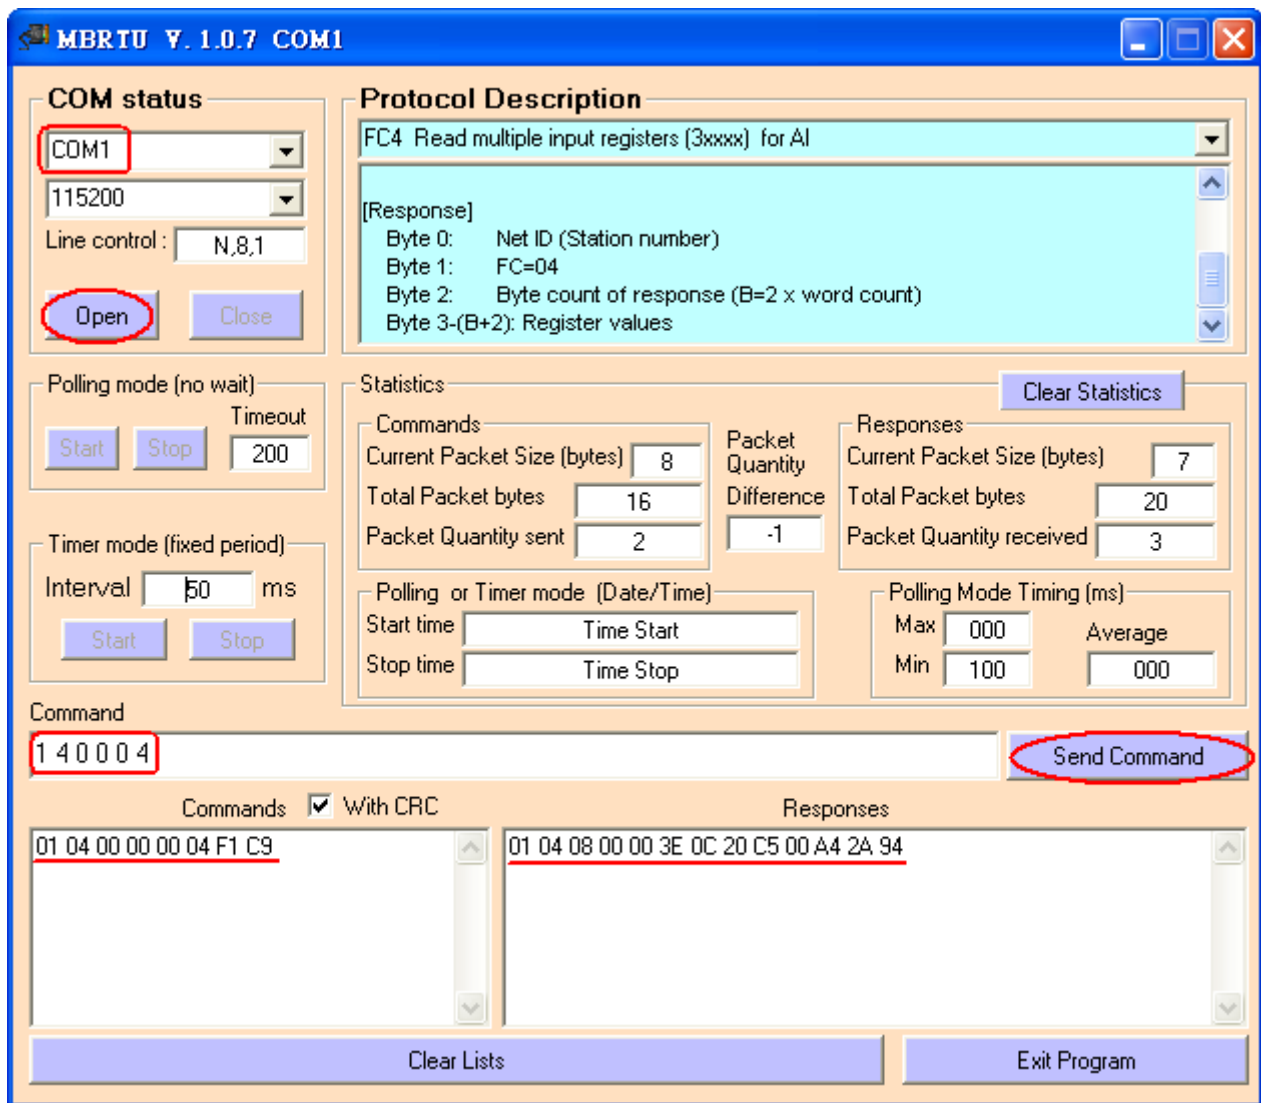

Figure 5-2 Receive HART Command 1 data
(2) The below demo will use the free **MB/RTU tool** provided by ICP DAS to show HART command 1 data. (Download from [http://ftp.icpdas.com.tw/pub/cd/8000cd/napdos/modbus/modbus\\_utility/](http://ftp.icpdas.com.tw/pub/cd/8000cd/napdos/modbus/modbus_utility/))
(3) Run "MB/RTU" tool. Set the com port settings the same with HART-710 (Baud Rate / Data Bits / Stop Bits / Parity) and then click "Open" button to connect to HRT-710 like Figure 5-2.
(4) Input "1 4 0 0 4" in "Command" field and click "Send Command" button to send the modbus command. The HART command 1 data will be received in "Responses" field => "01 04 08 00 00 3E 0C 20 C5 00 A4 2A 94" like Figure 5-2.